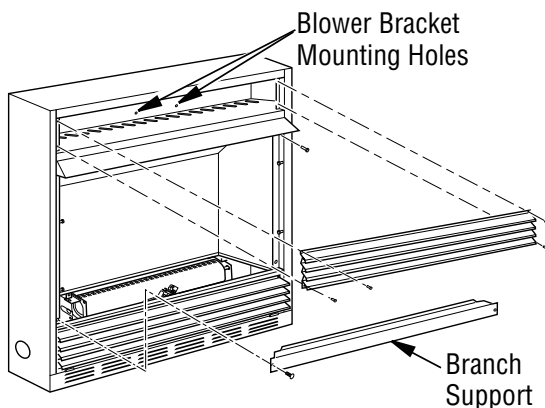

Figure 15 - Removing Top Louver and Branch Support
2. Remove 2 screws from each side of branch support and pull branch support out (see **Figure 15**).
3. Remove 4 screws from upper louver assembly (see **Figure 15**). Save these screws.
5. Open lower louver door by swinging door down (see **Figure 15**).
NOTE: When switch is in the AUTO position, the fan will start after the fireplace has run for a few moments. The fan will continue to run for several moments after the fireplace has been turned off. When switch is in the ON position, the fan will run until turned to OFF. Reinstall upper louver assembly (see **Figure 15**) and branch support. Close lower louver door.
6. Reinstall upper louver assembly (see **Figure 15**, **Page 15**) and close lower louver.